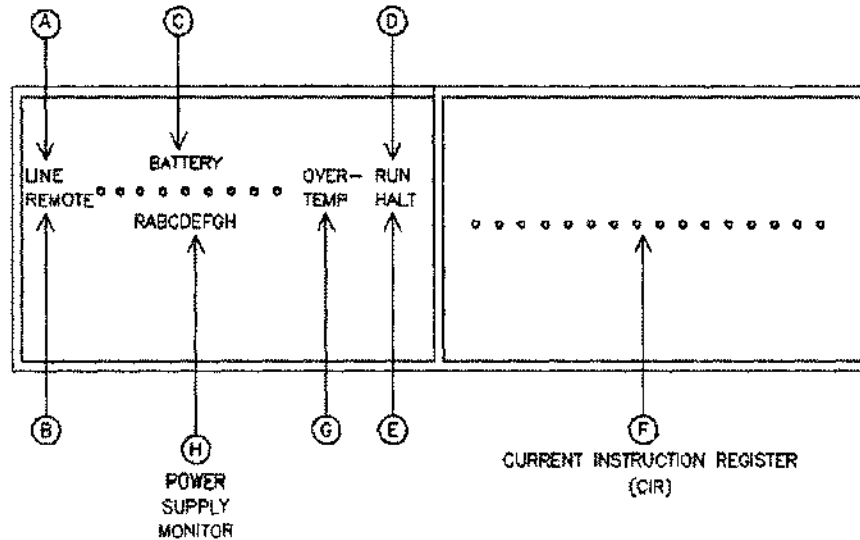
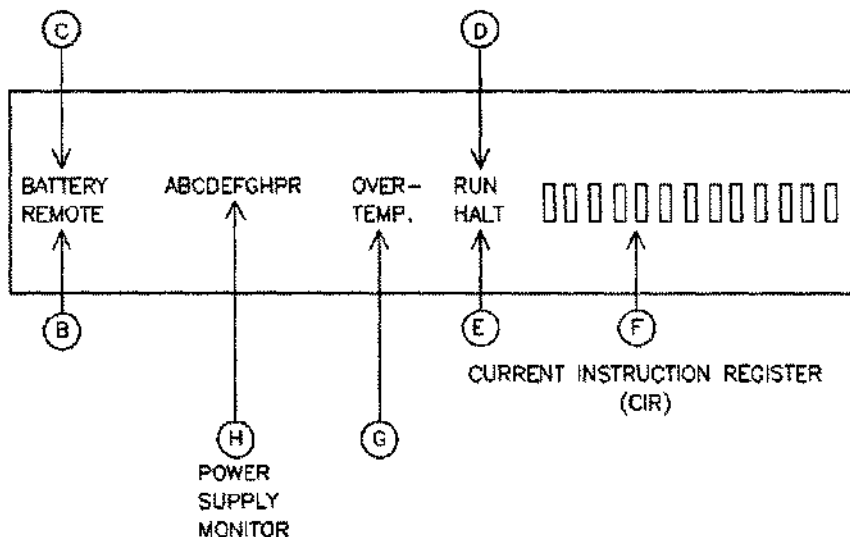

Figure 11-6. Series 64 System Status and Display Panel (HP 32460A)
Figure 11-7. Series 64/68 (HP 32460B/32468B) System Status and Display Panel
The System Status and Display Panel is located on the front of the system below the system name plate (Figure 11-6, Figure 11-7). The panel functions pertain to the HP 32460A, 32460B, and 32468B, except where individually specified:
- (H) POWER SUPPLY MONITOR Each power supply is monitored by a corresponding LED. Supplies one through eight have a corresponding A-H LED display. Supply nine has an R LED which corresponds to the DCU RESET. (See Figure 11-6).
- POWER SUPPLY MONITOR Each power supply is monitored by a corresponding LED (See Figure 11-7). When the LED is lit, the following condition exists: